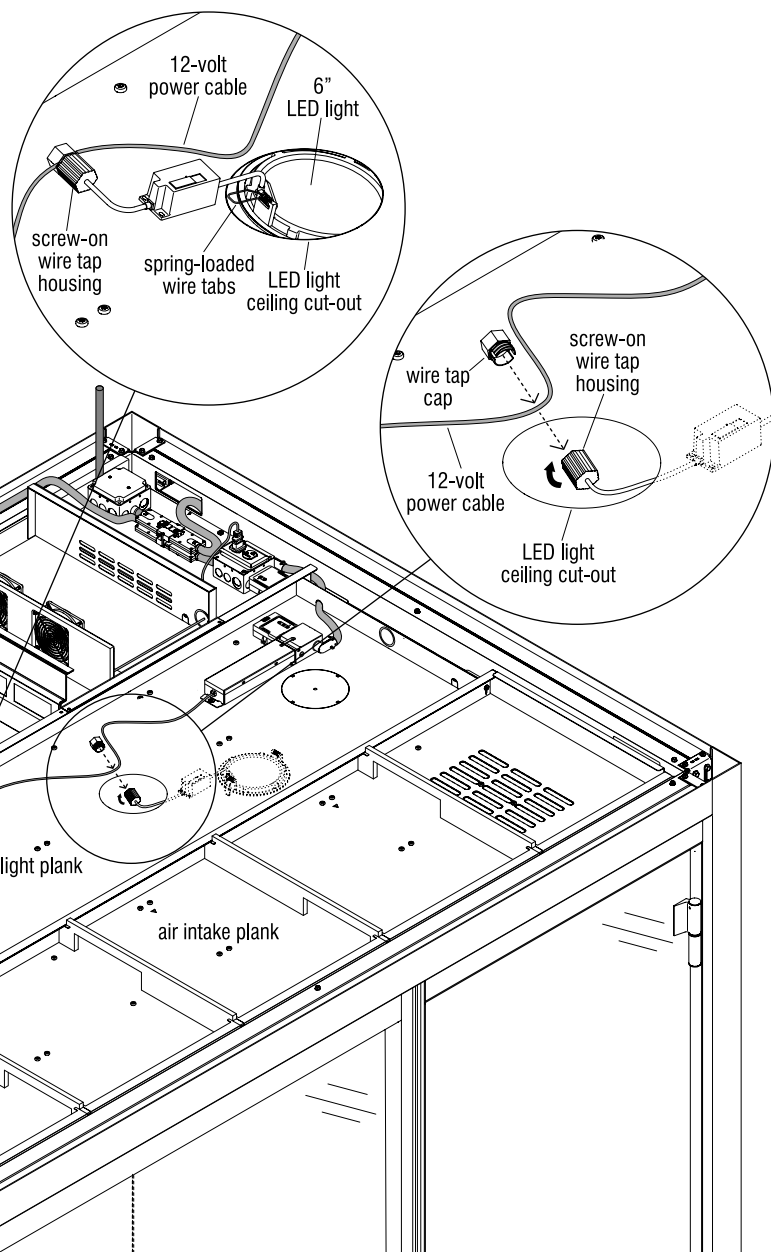

Figure 2
**Note:** The Figure 2 illustrations show the connection of lights from above the ceiling for clarity, but having at least one person working inside the super structure, under the light openings is required.
5. From inside the super structure, under one light cut-out location at a time, pull a loop of self-healing 12-volt power cable down through the light cut-out. Take the light fixture assembly in hand, hold the wire-tap cap, and twist to un-screw the screw-on wire-tap housing from the cap. Insert the loop of cable into the slot in the wire-tap cap, align the metal prong of the wire-tap housing with the slot in the cap, join the two together and twist the wire-tap housing to tighten and connect the 12-volt cable to the light (Figure 2).
6. Next, push the connected loop of cable and the Kelvin light color selector box up onto the ceiling. One side at a time, pull up on a spring-loaded wire tab and insert it first through the light cut-out, rotating the fixture up and inserting the second spring-loaded wire tab through the cut-out to hold the fixture in place when fully inserted into the ceiling (Figure 2).
7. Repeat steps 5 and 6 for the next light fixture to be installed to the ceiling plank (Figure 2).